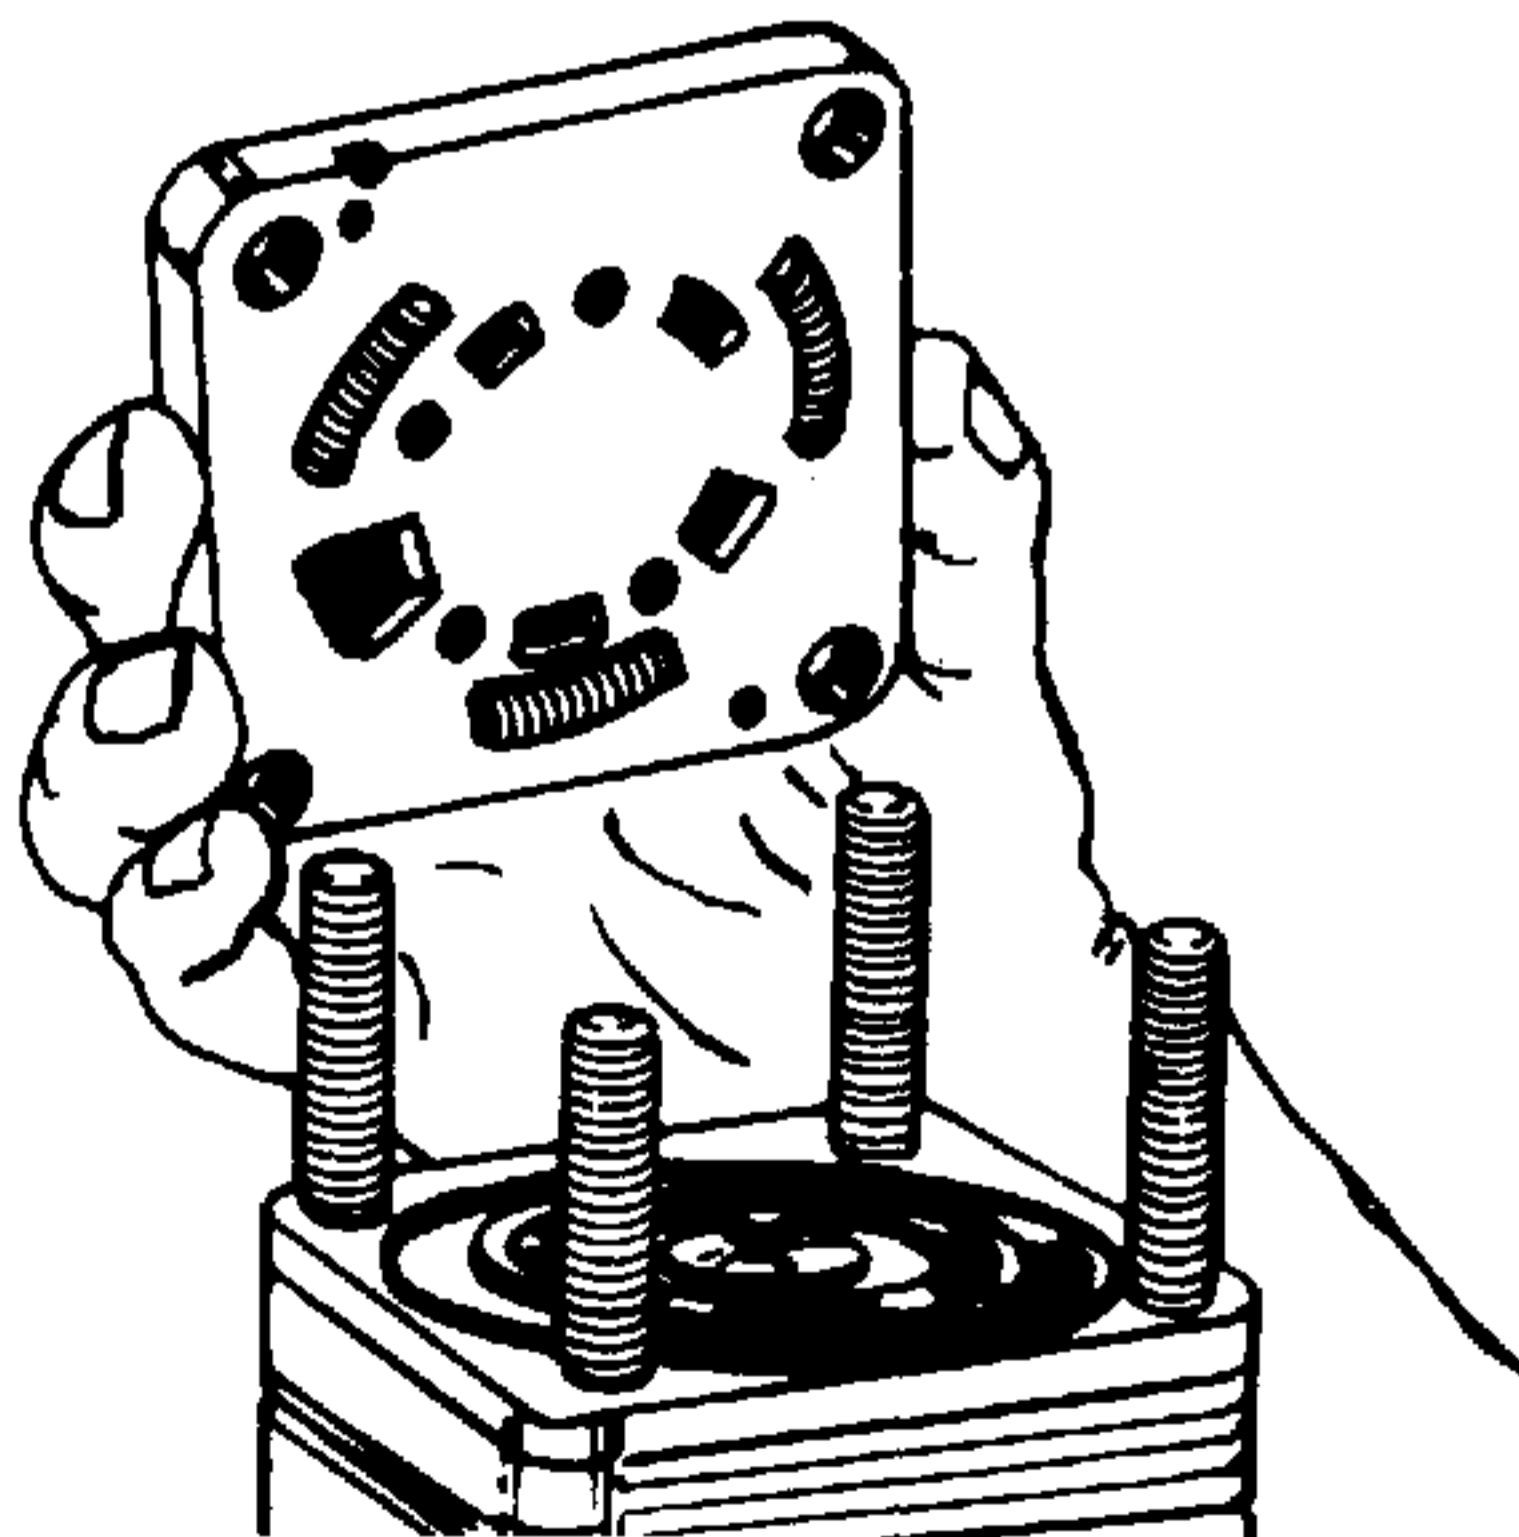

Figure 4-10. Removing Port Manifold.
6. Carefully lift the port manifold (6) (3 plates bonded together) from the unit. See Figure 4-10.